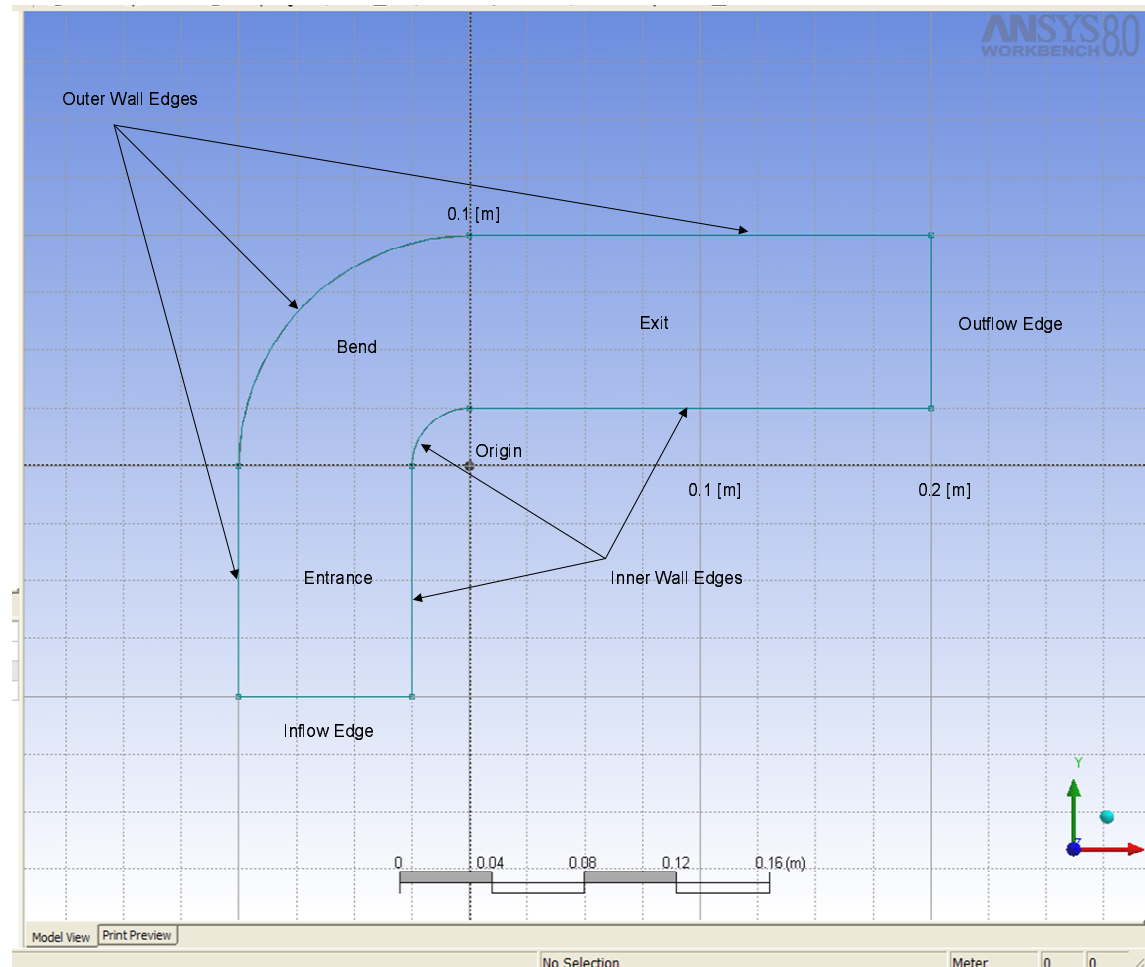

Figure 4: Wireframe of the final sketch of the duct bend flow path.
- sketch in the flow path through the duct, Figure 4;
- To draw in the 2D sketch of the duct flow path (Figure 4)
- The surfaces (faces) of the solid are labeled as regions for ease of attaching the boundary conditions . To attach a region entity at the inflow (see Figure 4):